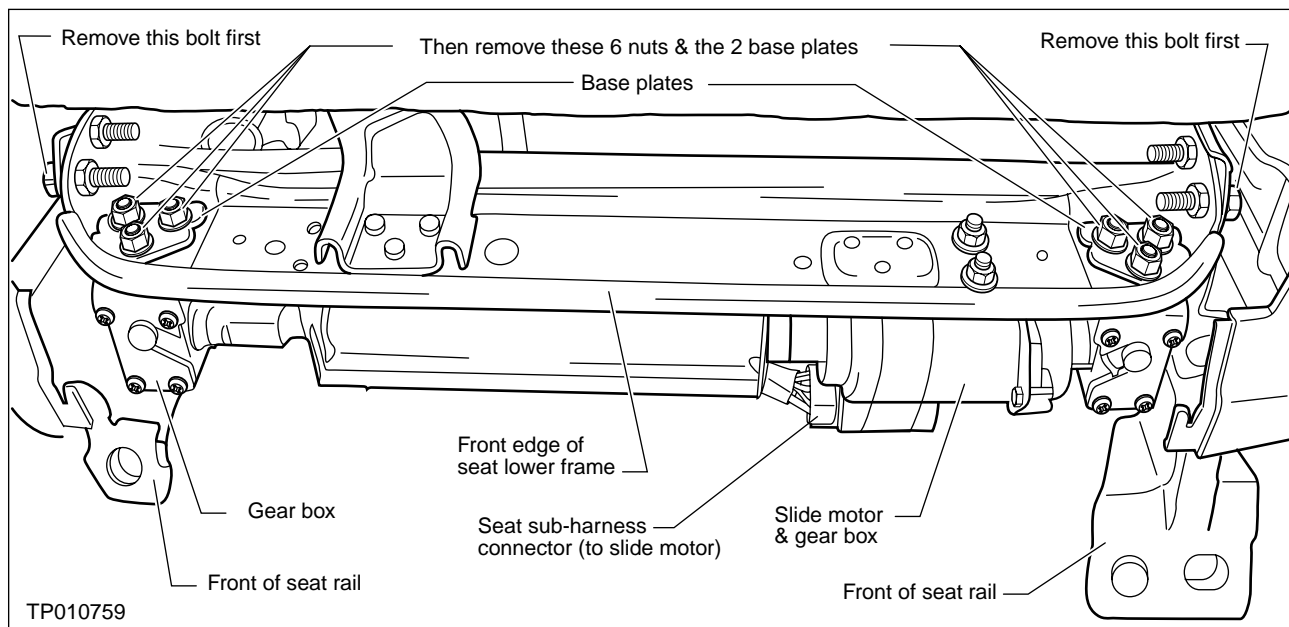

Figure 6
14. Disconnect the seat sub-harness connector (to slide motor - see figure 6).
- Remove M8 (12mm head) bolt from both sides of the seat frame, located to the sides of the front edge of seat (see figure 6).
- Then, remove six nuts and two base plates on both sides, located at the top of the seat frame, to release the gear boxes (see figure 6).
NOTE: For steps 19 through 22 (below), refer to figures 6 and 7 on page 4 and 5, if needed.
22. Re-install and tighten two M8 (12mm head) bolts located to the sides of the front edge of the seat (see figure 6). Bolt torque: 13-17 ft-lb (17.5-23.7 Nm).